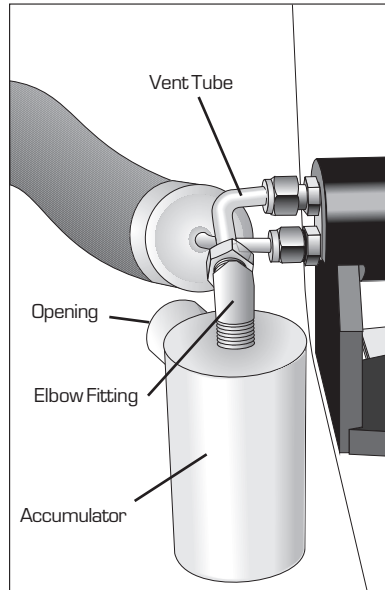

Figure 2.8
1. Connect the LNCA coolant transfer tube from the LNCA feed valve to the stainless-steel union on the block housing. See Figure 2.8.